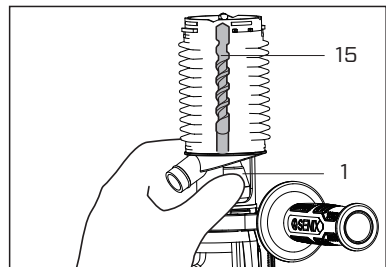

Fig.7
The tool is designed with an exposed Chuck Cover(1) when it is attached with the dust cup set. Pull the Chuck Cover(1) down to mount or remove the Drill Bit(15) (Fig.7).